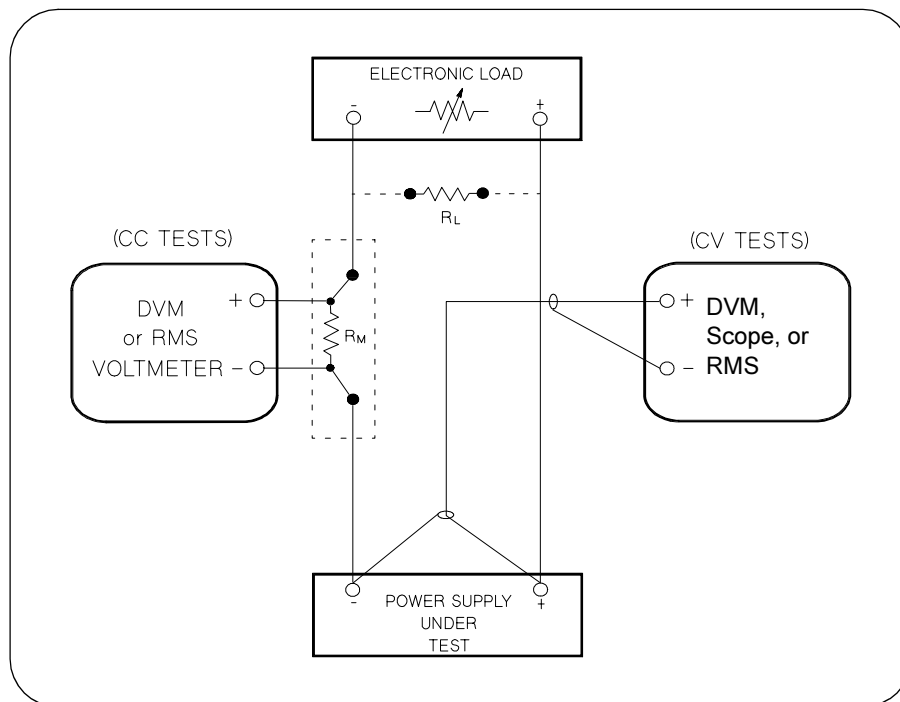

Figure A-1 Performance Verification Test Setup
Most tests are performed at the front terminals as shown in Figure A-1. Measure the dc voltage directly at the (+) and (-) terminals on the front panel.
To eliminate output current measurement error caused by the voltage drops in the leads and connections, connect the current monitoring resistor between the (-) output terminal and the load as a four-terminal device. Connect the current-monitoring leads inside the load-lead connections directly at the monitoring points on the resistor element (see R_M in Figure A-1).
- 1 Turn off the power supply and connect a digital voltmeter between the (+) and (-) terminals of the output to be tested as shown in Figure A-1.
- 1 Turn off the power supply and connect a digital voltmeter between the (+) and (-) terminals of the output as shown in Figure A-1.
- 6 Adjust the transformer to high line voltage (127 Vac for nominal 115 Vac, 110 Vac for nominal 100 Vac, or 253 Vac for nominal 230 Vac). Record the voltage reading on the digital voltmeter. The difference between the digital voltmeter readings in steps (5) and (6) is the CV line regulation. The difference of the readings should be within the limit of (5 mV)* or (9 mV)**.
- 7 Repeat steps (1) through (6) for the other output.
- 1** Turn off the power supply and connect the output to be tested as shown in Figure A-1 to an oscilloscope (ac coupled) between (+) and (-) terminals. Set the oscilloscope to AC mode and bandwidth limit to 20 MHz. Connect a resistive load (13.5Ω)[‡] to the terminal at (B) as shown above.
- 6** Repeat steps (1) through (5) for the other output.
- 1 Turn off the power supply and connect the output to be tested as shown in Figure A-1 with an oscilloscope. Operate the electronic load in constant current mode.
- 1 Turn off the power supply and connect a $0.01\ \Omega$ current monitoring resistor (R_{M1}) across the output to be tested and a digital voltmeter across the current monitoring resistor (R_{M1}) as shown in Figure A-1.